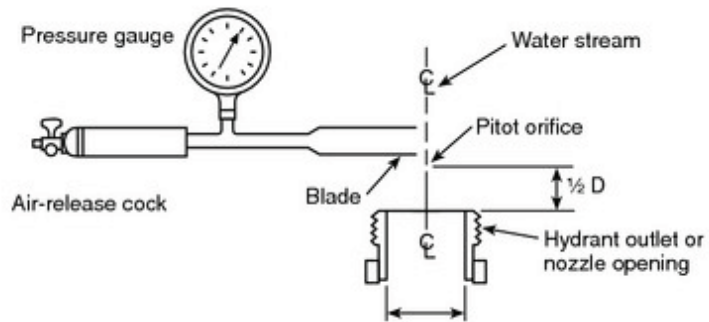

Figure 2 Pitot tube position
6. Record your pitot reading by inserting the orifice of the pitot tube into the center of the flow of water and away from the opening at half the diameter of the opening (see Figure 2). The centerline of the orifice should be at a